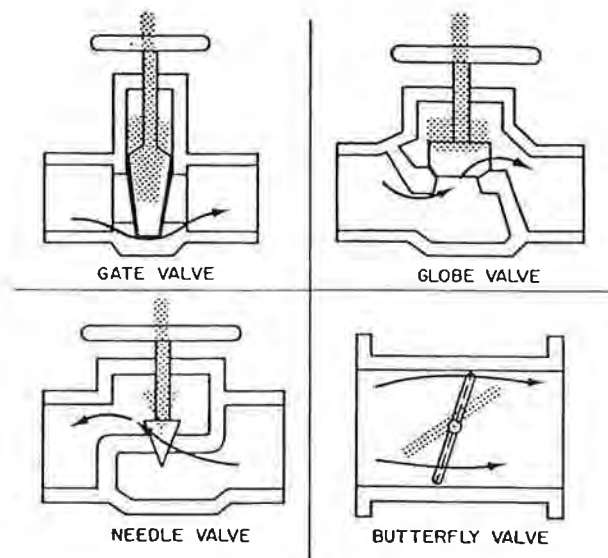

Fig. 7-4. Simplified views of common valves.
7.15 Figure 7-4 shows the closing elements used in gate, globe, needle, and butterfly valves. It also shows the pattern of fluid flow through these valves.
7.16 GATE valves are used primarily for open and closed service. They are not especially recommended for intermediate flow regulation or throttling. They should not be used in a kitchen because of disc-face wear and ultimate leakage. As you look at the fluid flow pattern in Fig. 7-4, you can see two important features of these valves: (1) the fluid flow is straight through the body of the valve; and (2) the passageway through the valve is practically the same size as the pipes to which the valve is connected. For this reason the pressure loss (pressure drop) through this type of valve is about equal with the loss in a piece of pipe of the same length.
7.18 The GLOBE valve gets its name from the globe or disc element that presses against the valve seat to close the valve. As shown in Fig. 7-4, fluid flow through a globe valve is at right angles to the direction of flow in the pipes. When this type of valve is opened, the entire surface of the globe moves away from the valve seat at once. This is different from the gate valve, in which the gate is nearly always subject to fluid pressure against the valve seat. Because globe valves can be adjusted with fewer turns than gate valves, they are preferred where the application calls for frequent opening and closing. They also provide an excellent means of throttling flow.